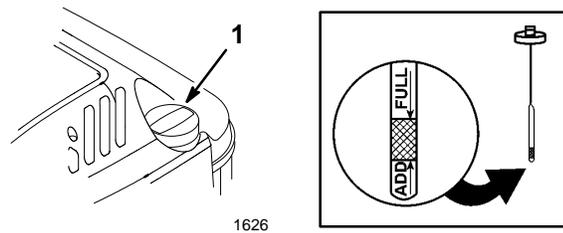

Figure 4
Before each use, ensure that the oil level is between the FULL and ADD marks on the dipstick (Fig. 4). Add oil if the level is low.
- Position the mower on a level surface and clean around the dipstick (Fig. 4).
- Remove the dipstick and check the level of the oil on the side of the dipstick with the FULL and ADD marks (Fig. 4).